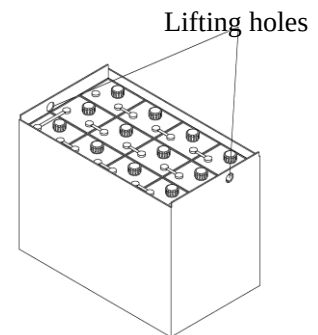

Figure 2-22
(4) Lifting description of the accumulator as shown in Figure 2-22